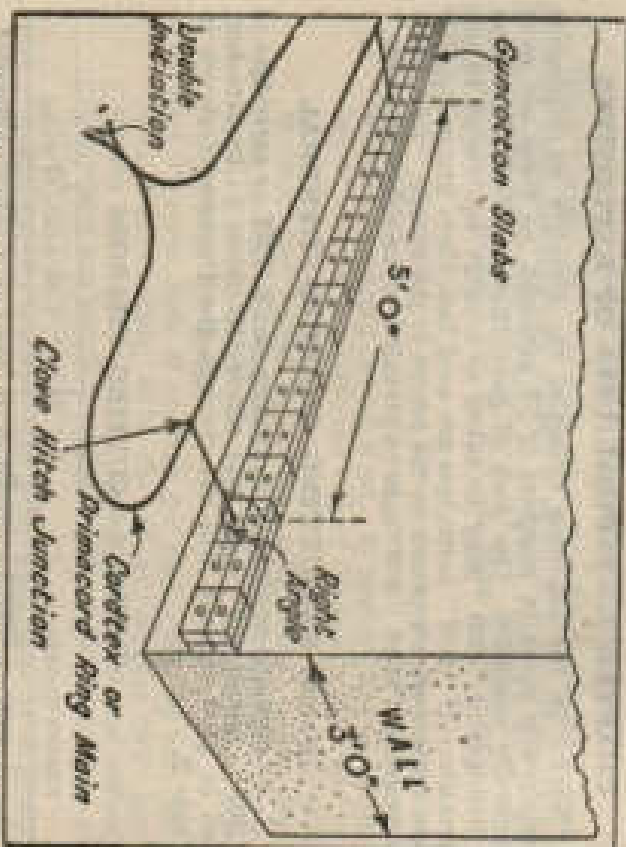

Fig. 13. Cutting charge on thick masonry wall, showing points of initiation. (Fixing omitted for clarity)
- (b) Long continuous cutting charges should have points of initiation (primers fired by cordtex, etc., as already described) every 5 ft of their length (see Fig 13). Grenades, however, should be placed flat end to flat end, with every other grenade initiated by cordtex. Where possible initiation should be on the surface of the charge furthest from the face of the object attached and at right angles to it (see Fig 13).
For walls over 9 ins and up to 18 ins thick use a continuous line of grenades placed flat end to flat end. Every other grenade should be initiated with cordtex as already described. It is emphasized again that such charges are NOT sufficient for reinforced concrete walls. Fig 13 shows a thick masonry wall with a cutting charge of four slabs of C.C. per foot run.